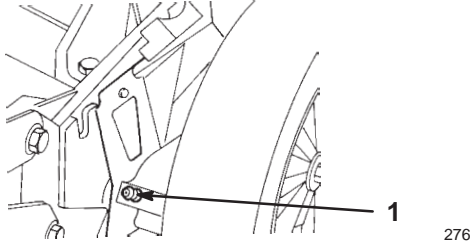

Figure 27
- Wipe the grease fittings with a clean rag (Fig. 27).